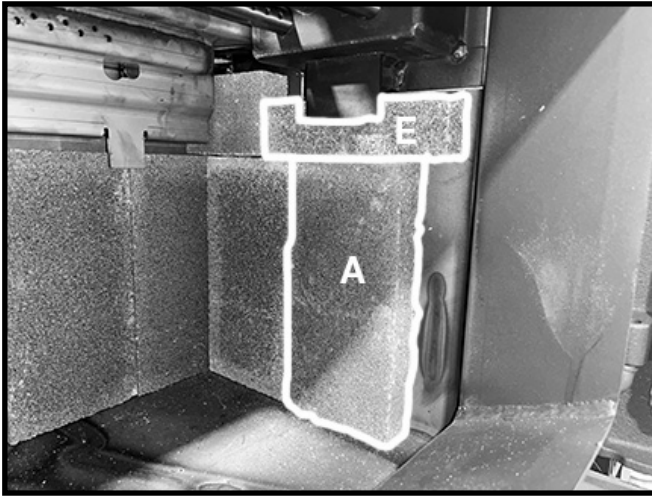

Figure 18. Second side wall bricks in place.
5. Next, place an "E" firebrick up under the side brick retainer tab and stand another "A" brick beside the first one under the "E" firebrick Figure 18.